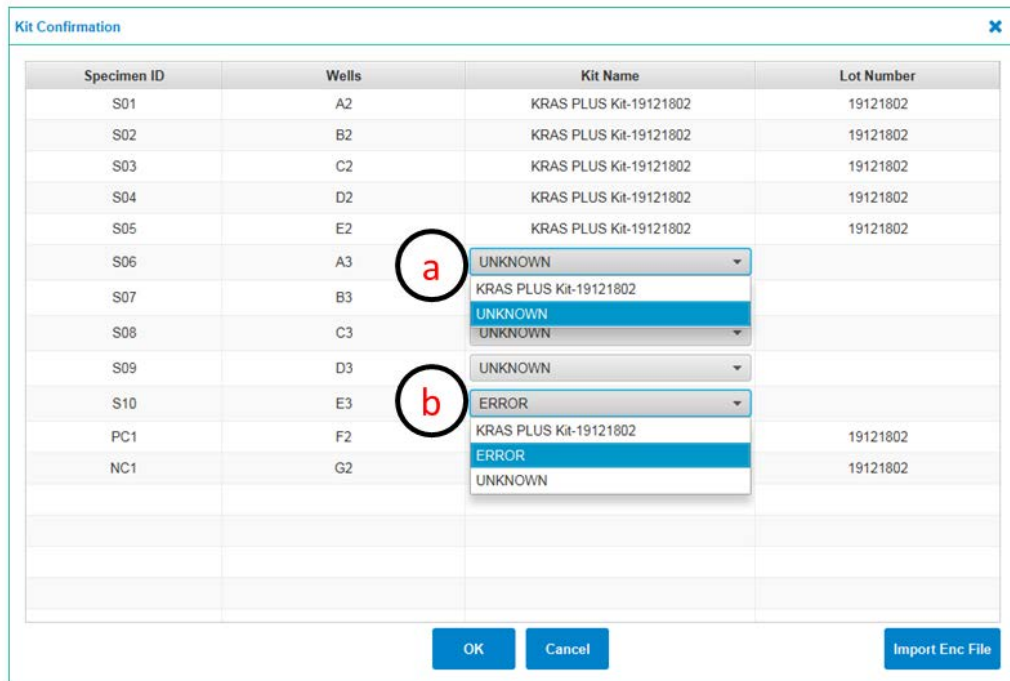

Fig. 29. Kit Confirmation window
Step 4. The “Kit Confirmation” window (Fig. 29) shows up after the “Kit Mapping Summary” is closed and lists all Specimen IDs with associated well position, Kit Name and Lot Number.
Specimen IDs that remain with Kit Name “UNKNOWN” (despite having all ENC files imported, see “note” below) or “ERROR” can manually be associated to any Kit Name/ Lot Number that was identified for any of the other wells in the file (Fig. 29, a and b). Specimen IDs that are manually associated with a Kit Name/ Lot Number will be included in the selected assay-lot specific report (but will not have a result).